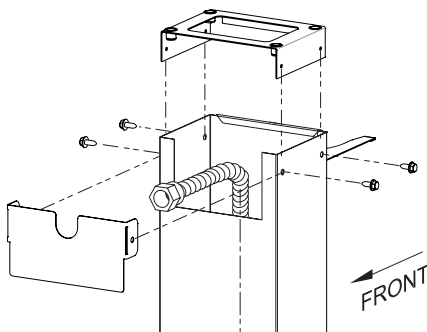

Figure 5
- For R3 Series Grill Heads: Slide the Post Cover Plate onto the front of the post. Slide the Upper Bracket onto the post. Secure the Post Cover Plate and Upper Bracket to the top of the square post using four #10 - 1/2 Hex Head screws. See Figure 5.
For Grill Heads other than R3 Series: Slide the Upper Bracket into the post. Secure the Upper bracket to the top of the square post using four #10 - 1/2 screws. See Figure 5.